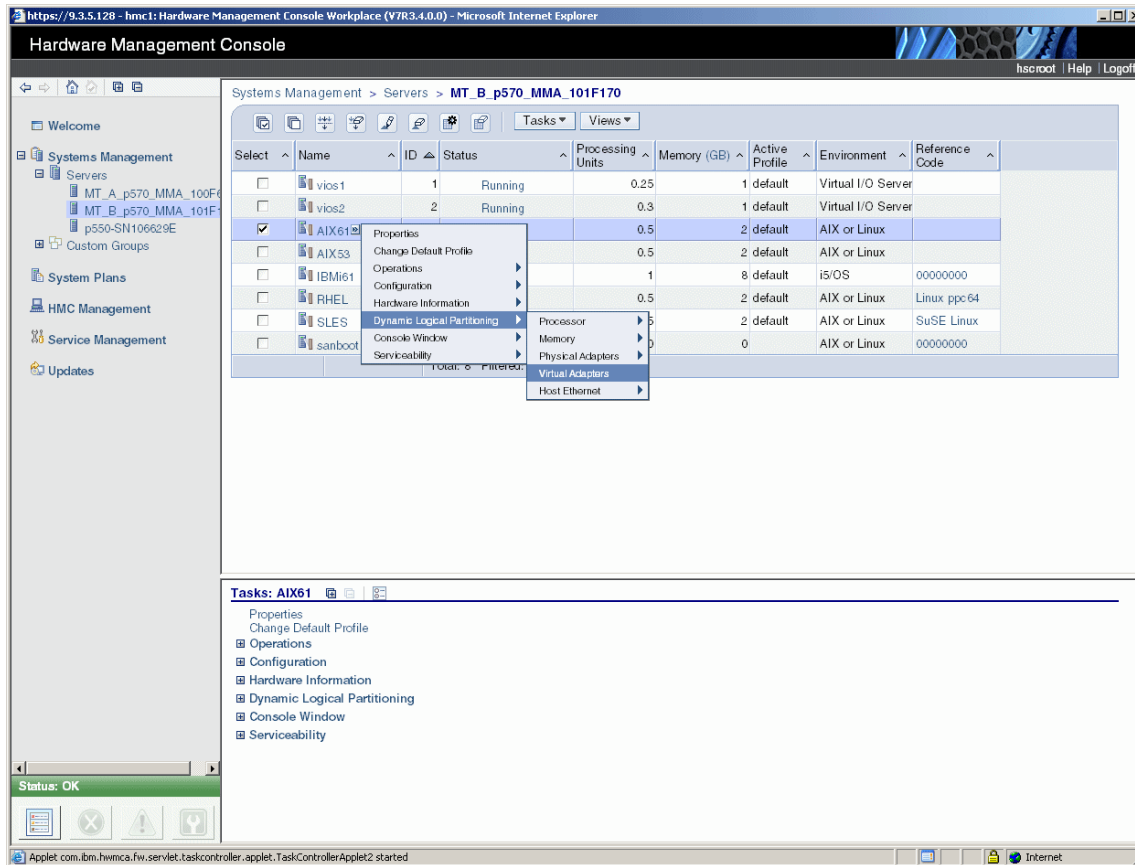

Figure 2-33 Dynamically add virtual adapter.
- a. Select the virtual I/O client partition on which the virtual Fibre Channel client adapter is to be configured. Then select **Tasks** → **Dynamic Logical Partitioning** → **Virtual Adapters** as shown in Figure 2-33: